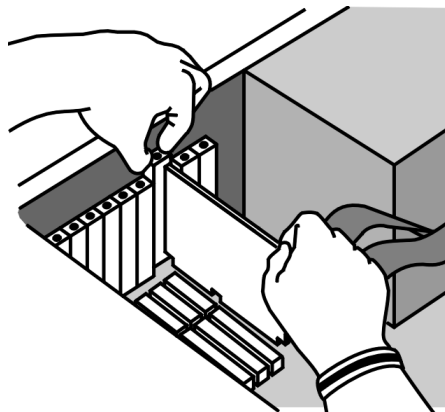

Figure 1-3 Inserting GPIB Card
- 4 Insert the GPIB interface edge connector into the expansion slot connector of the computer. See Figure 1-3. Make sure the interface is fully seated by pushing firmly on the edge of the card with the palm of your hand. The GPIB connector should extend through the back panel opening to allow cable installation.